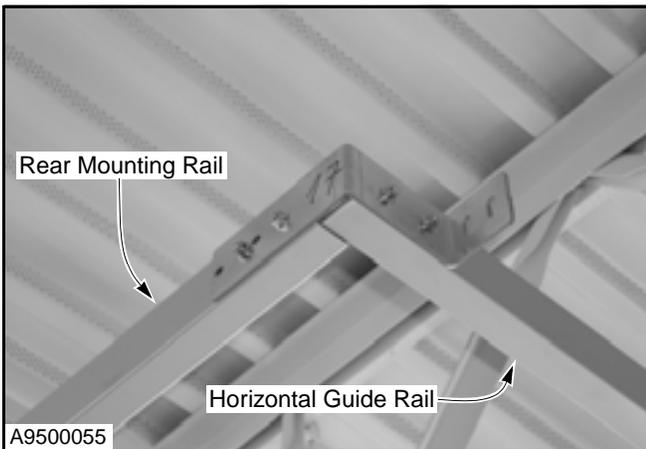

Figure 52
6. Install the rear mounting rail and ceiling mounting bracket. (See Figure 52.)